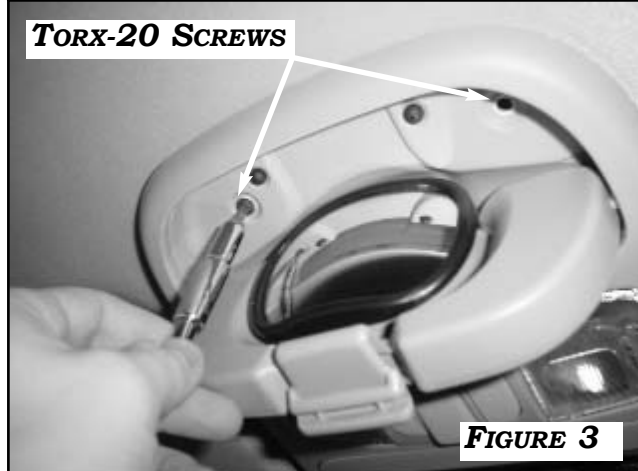

FIGURE 3
2. REMOVE OVERHEAD CONSOLE BY REMOVING (2) **TORX-20
SCREWS (**FIGURE 3**), RELEASING (2) CLIPS AND